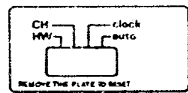

Fig 1 Fully Pumped System
First, ensure that a switch cover plate has been fitted over the slide switch. When the programmer left the factory a switch cover plate for Fully Pumped Systems, Fig 1, will have been fitted. For Gravity Hot Water Systems the installer should have fitted the alternative switch plate, Fig 2.
First ensure that the switch cover plate has separate positions for Central Heating (CH) and Hot Water (HW) as shown in Fig. 1.